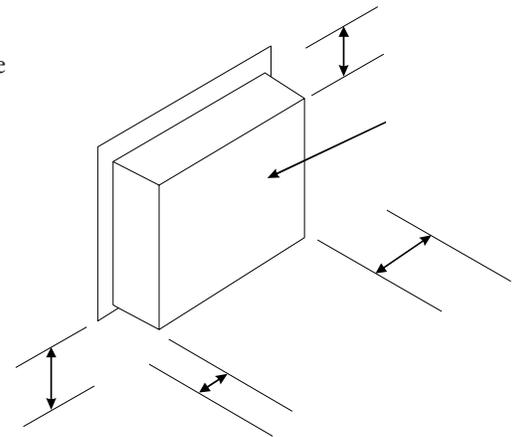

FIGURE 1
1. When installing a VersaView computer or monitor in a cabinet, ensure that there is enough space around the product to provide adequate airflow. The product's inlets and outlets must remain clear of obstructions. Refer to figure 1 for a clearance requirement example.